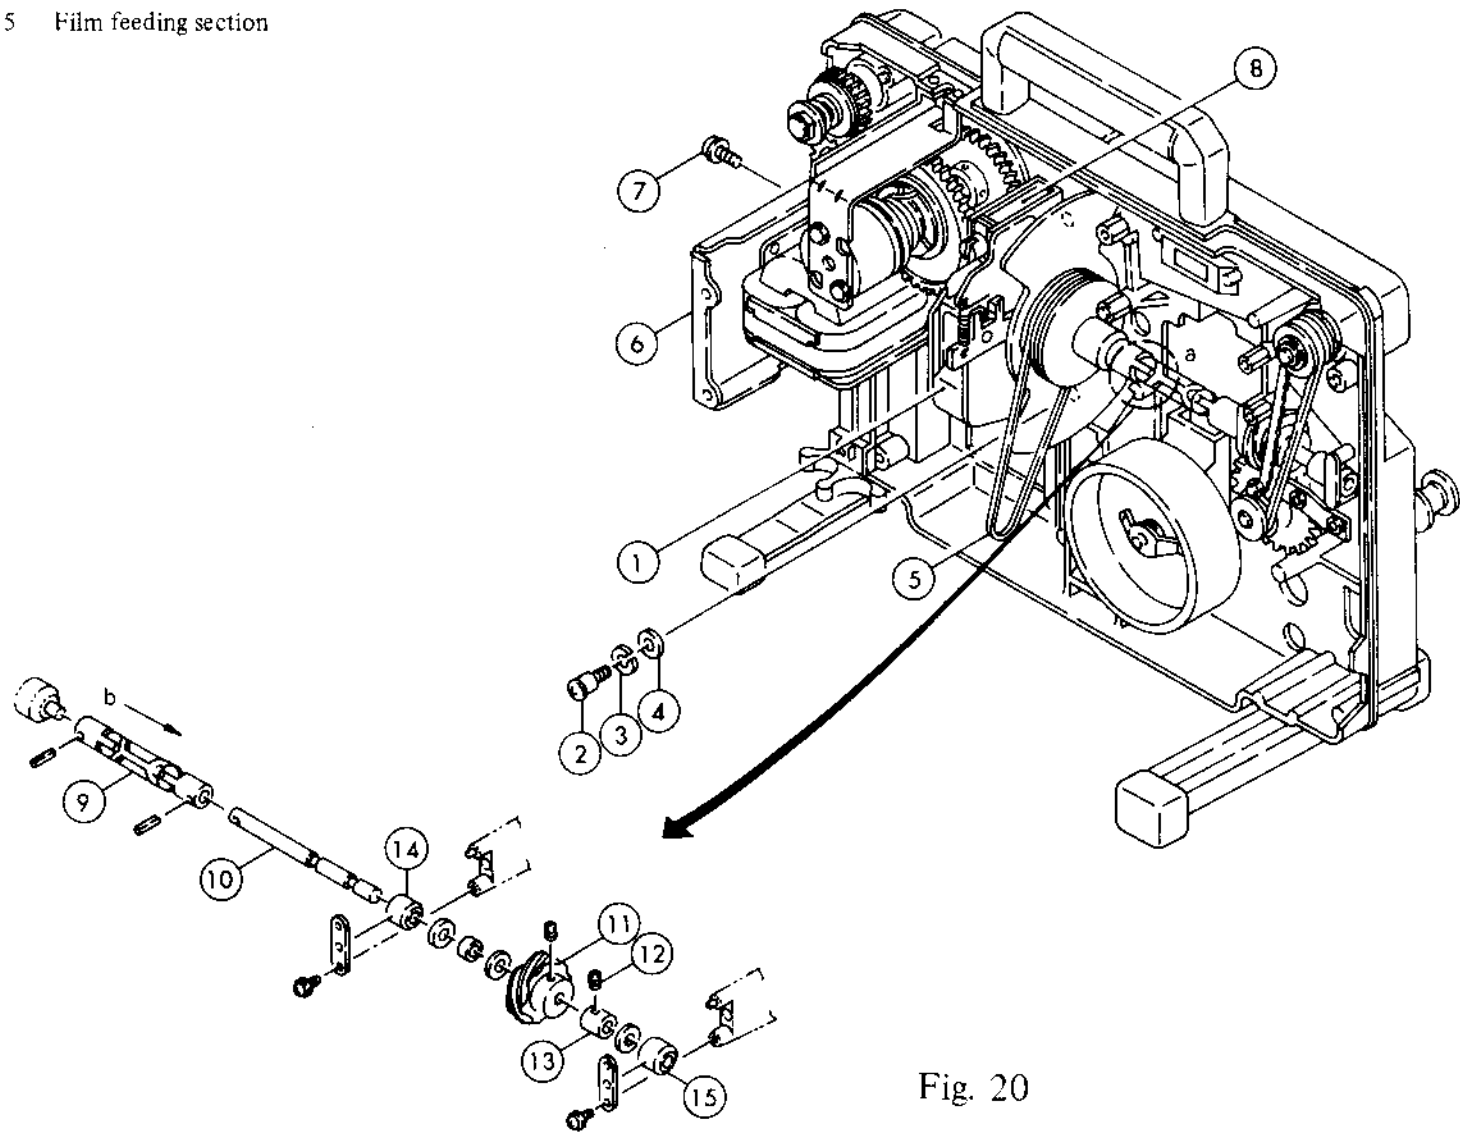

Fig. 20
1. Remove the fixing plate fan motor assy (see P. 35) for removing (1).
2. Loosen (12) x 2 pcs. and pull a position toward arrow mark b position to separate the (9) and (10) assy.
3. Properly treat the cord connected to (8). (Remove the connector by removing the tie band or remove (8) by unscrewing the 3 pieces of screws). (See P. 47)
4. Remove (6) by removing (7) x 2 pcs. (connected state).
6. Remove (2) x 2 pcs, taking care so as not to drop (3) and (4).
7. Slightly push (1) down, and remove the worm, taking care so as not to let the worm touch other parts.
8. Remove the fixing plate power jack (see P. 53) before disassembly (9) - (12).
9. For further disassembly, refer to Fig. 20.